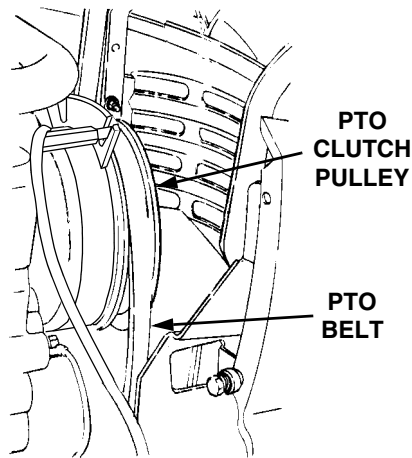

Figure 36
4. Open the tractor hood and remove the forward end of the PTO belt from the PTO clutch pulley on the front of the engine (See Figure 36).